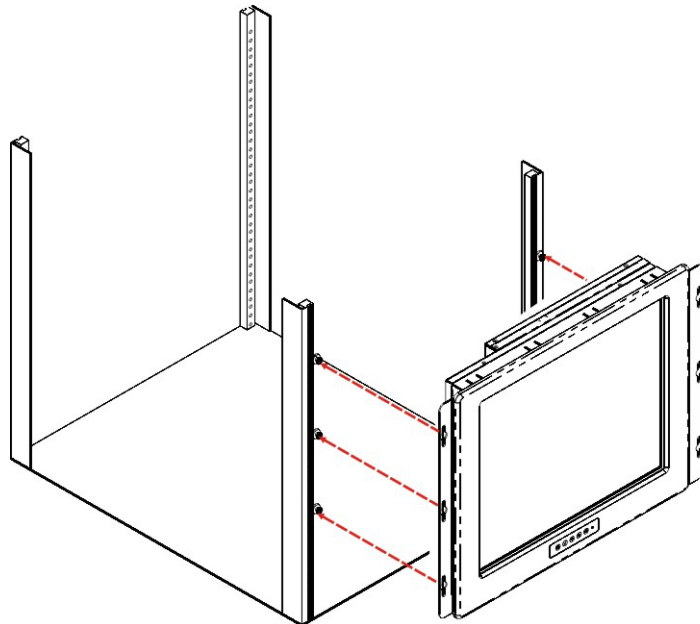

Figure 5-17: Rack Mounting (DM-190)
Step 3: Carefully insert the slotted holes of the brackets on the monitor through the bolts on the rack and gently pull the monitor downwards until the bolts rest securely in the slotted holes. (See **Figure 5-17**). Ensure that all six of the bolts fit snugly into their respective slotted holes.